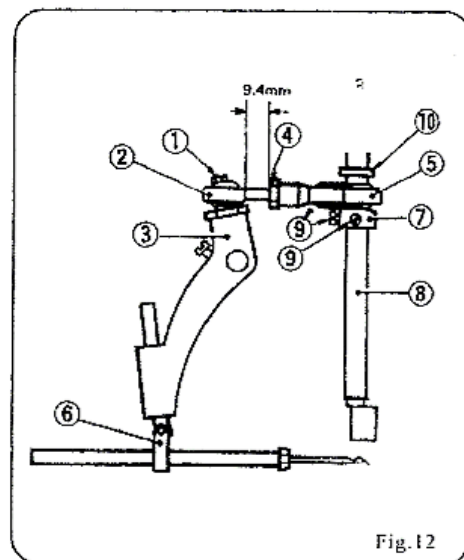

Fig. 12
- 5. For replacement or adjustment of Ball Rod, refer to Fig. 12.
The position of Needle is adjusted so that the distance between the point of Needle (at its highest position) and Throat Plate is 13 mm, after loosening screw on Needle Bar Connection Assembly ⑥ in Fig. 12.
① Screw 11/64S40089
② Rod End 6APOS8
③ Needle Bar Lever 242051A
④ Nut 1N8
⑤ Connecting Rod Assembly 242011A
⑥ Needle Bar Connection Assembly 242101A
⑦ Eccentric Cam (part of Connecting Rod Assembly) 242011
⑧ Main Shaft 241101
⑨ ⑨' Screw 11/64S40001
⑩ Spacer 241161